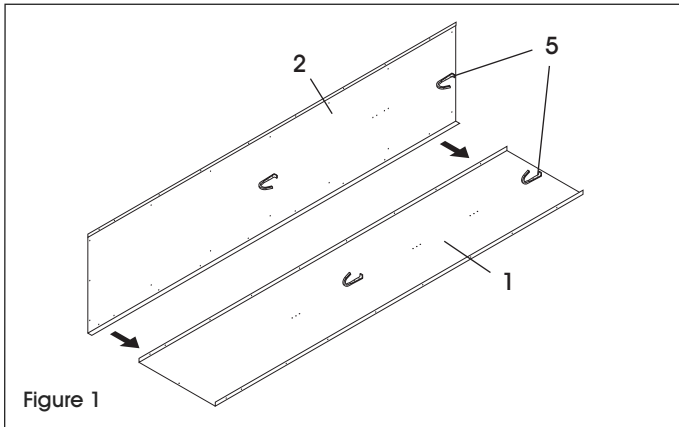

Figure 1
2. Place back (1) on a protected flat surface so that the flanges face upward.
3. Bolt left side (2) to the back (1) so that side flange fits around back (using 7 bolts and nuts—nuts to the inside) Do not use bottom two holes; these will be used for attaching legs in step 7. (See Figure 1)